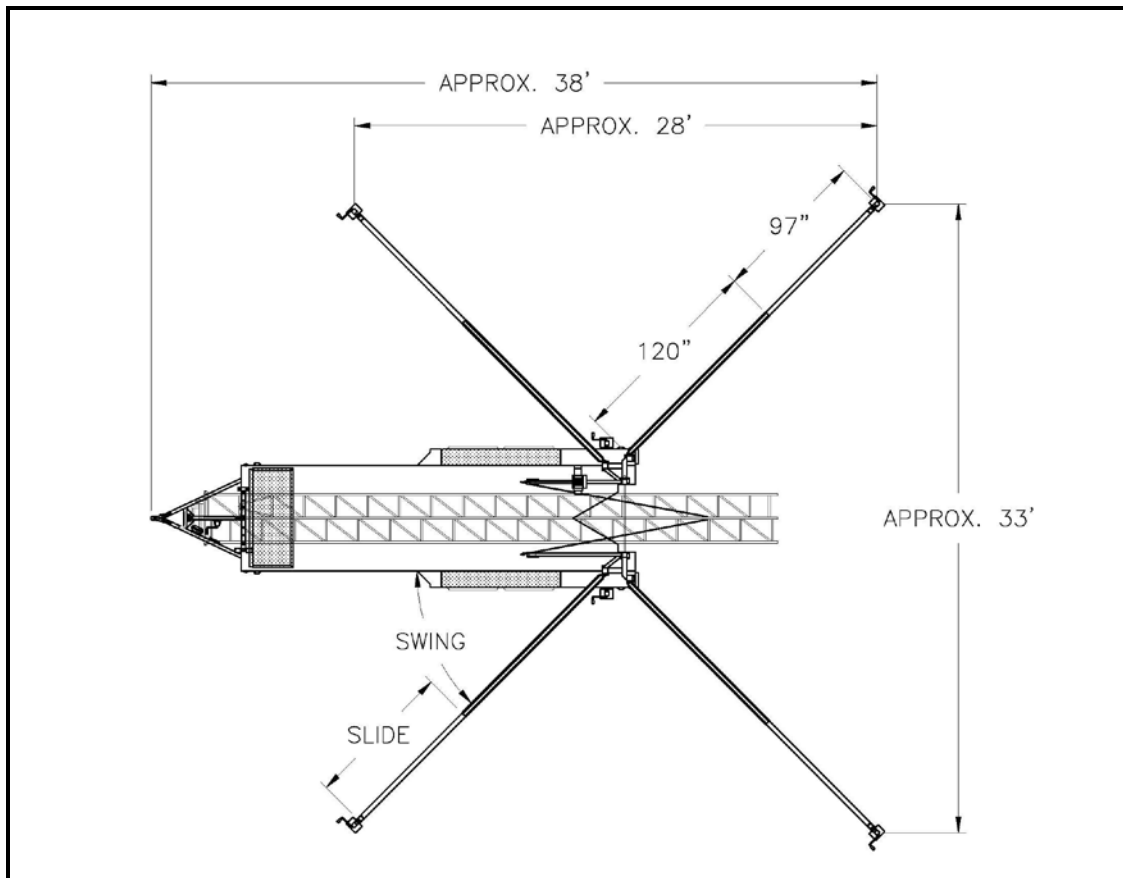

Fig. 4 Dimensions with Outriggers Fully Extended
1. Locate the trailer tower unit in a place that will allow a minimum clearance of 27 ft. wide by 36 ft. long to allow for full extension of the outrigger assemblies (*see Fig. 4*).